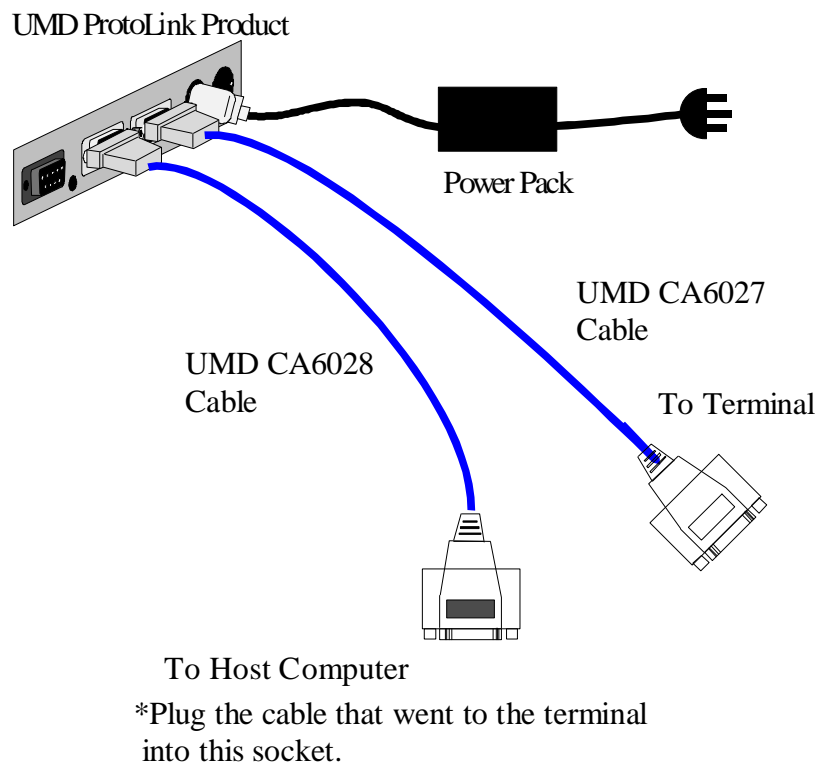

Figure 3
- 1) Referring to figure 3, unplug the cable on the terminal (from the host) connect the UMD CA6027 cable to the S2 serial port on the UMD ProtoLink Product.